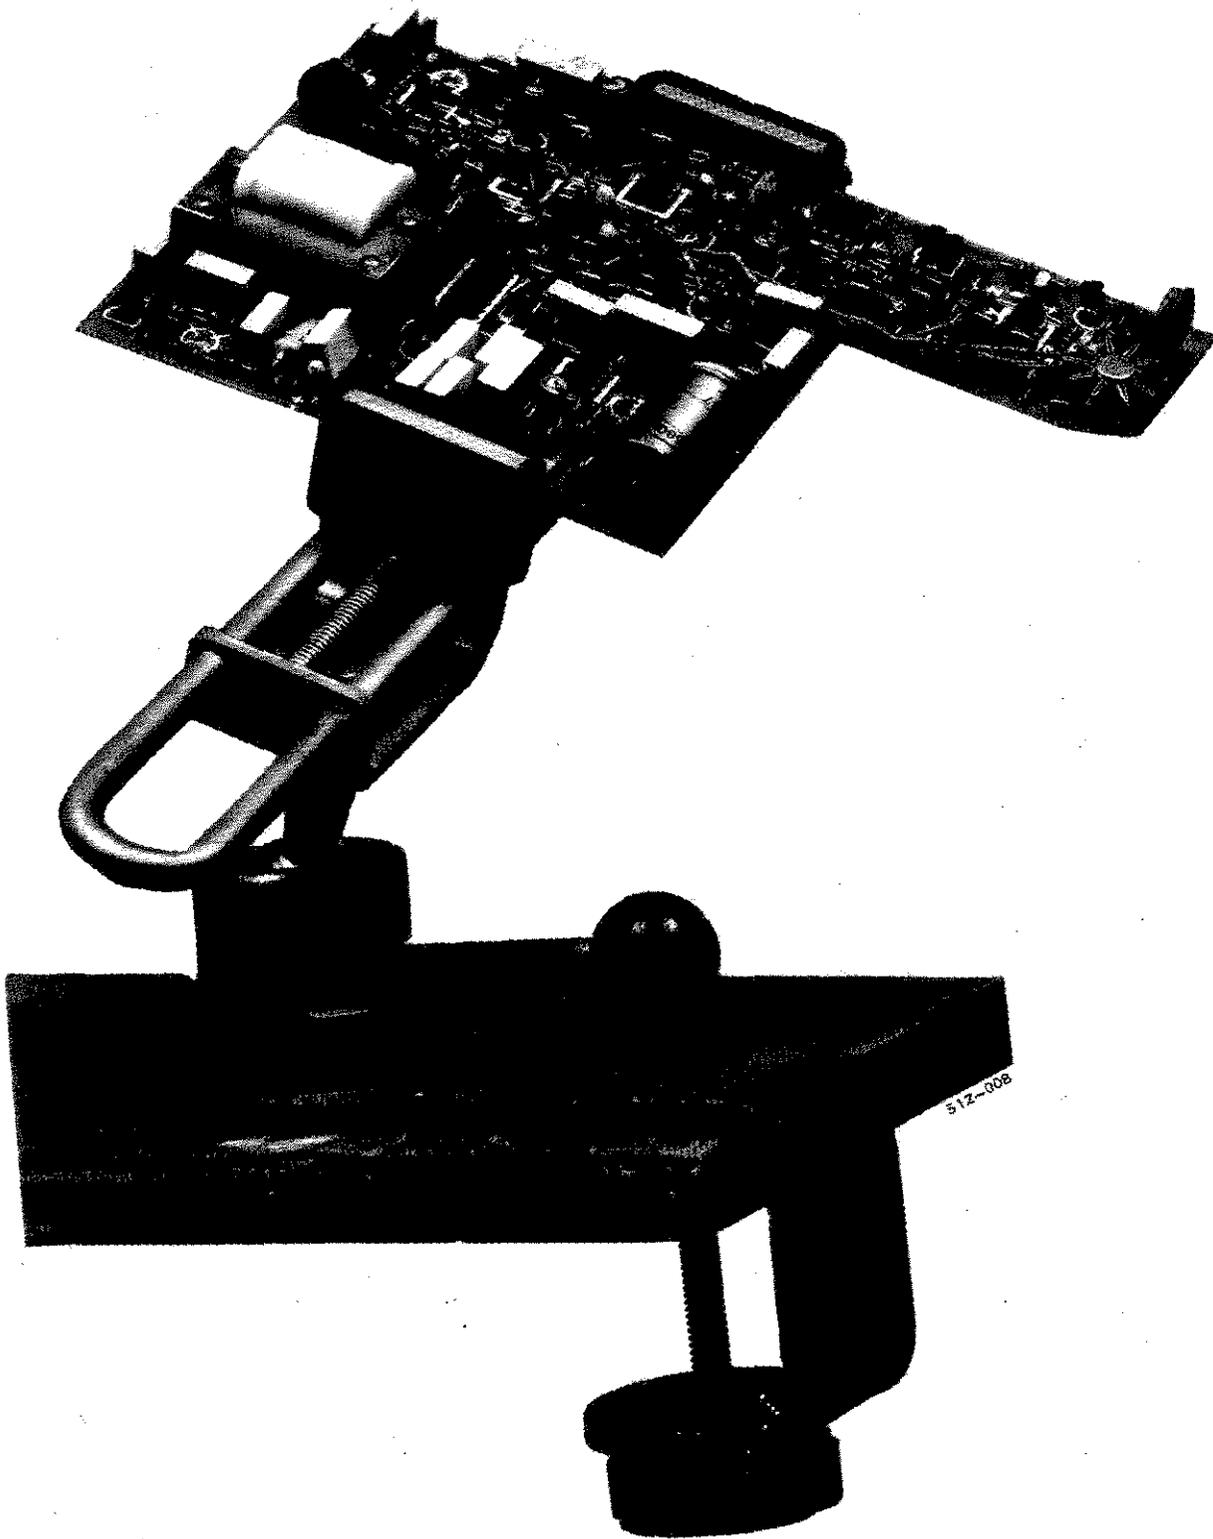

Fig. 23 - PCB Prepared for Testing
6.01 Tests and adjustments for Printed Circuit Boards (PCB) are carried out with the PCB removed from the hands-free units (4.05 H). To avoid damage to integrated circuits and discrete components, the PCB should be supported in a Bench Vice (Fig. 23), during the entire course of the tests. These tests, which consist of a number of electrical tests and adjustment procedures, are present in Chart form as follows: